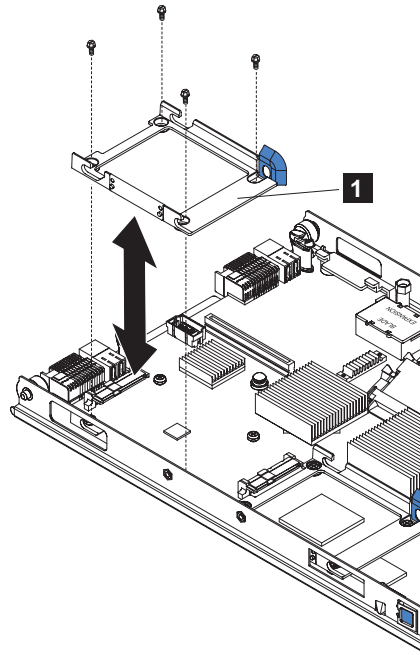

Figure 34. Installing the disk drive tray
1. Place the drive tray ( **1** in Figure 34) into position on the system board and install the four screws to secure it.